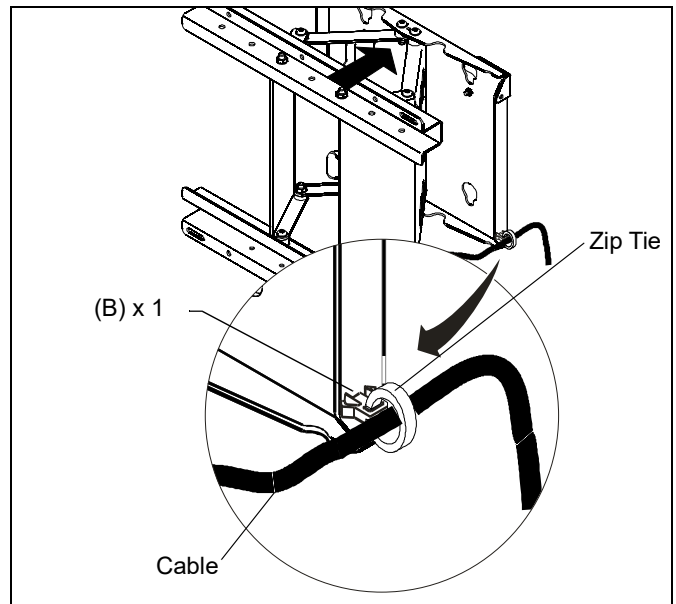

Figure 9
1. Zip tie cable to cable clip (B). (See Figure 9)